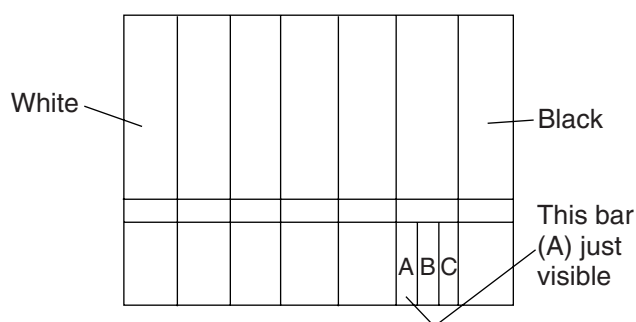

Fig. 6
2. Press MENU button. (Each time MENU button is pressed, display will change BRT, CNT, COL, TNT, and SHP in that order.) Select BRT and press [P+/P--] buttons so that the bar (A) in Fig. 6 is just visible.